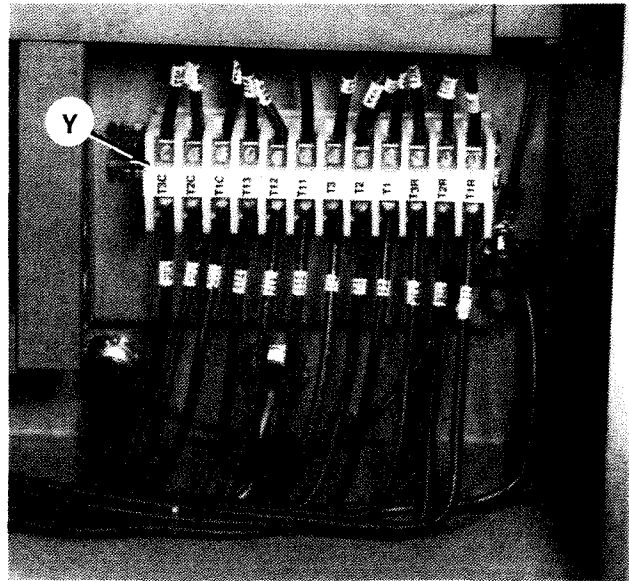

Figure 3.27 - Terminal Block 2TB
10. Disconnect wires T1R, T2R, and T3R from the lower side of terminal block "Y", Figure 3.27 .
9. Connect wires T1R, T2R, and T3R to the lower side of terminal block "Y", Figure 3.27 .